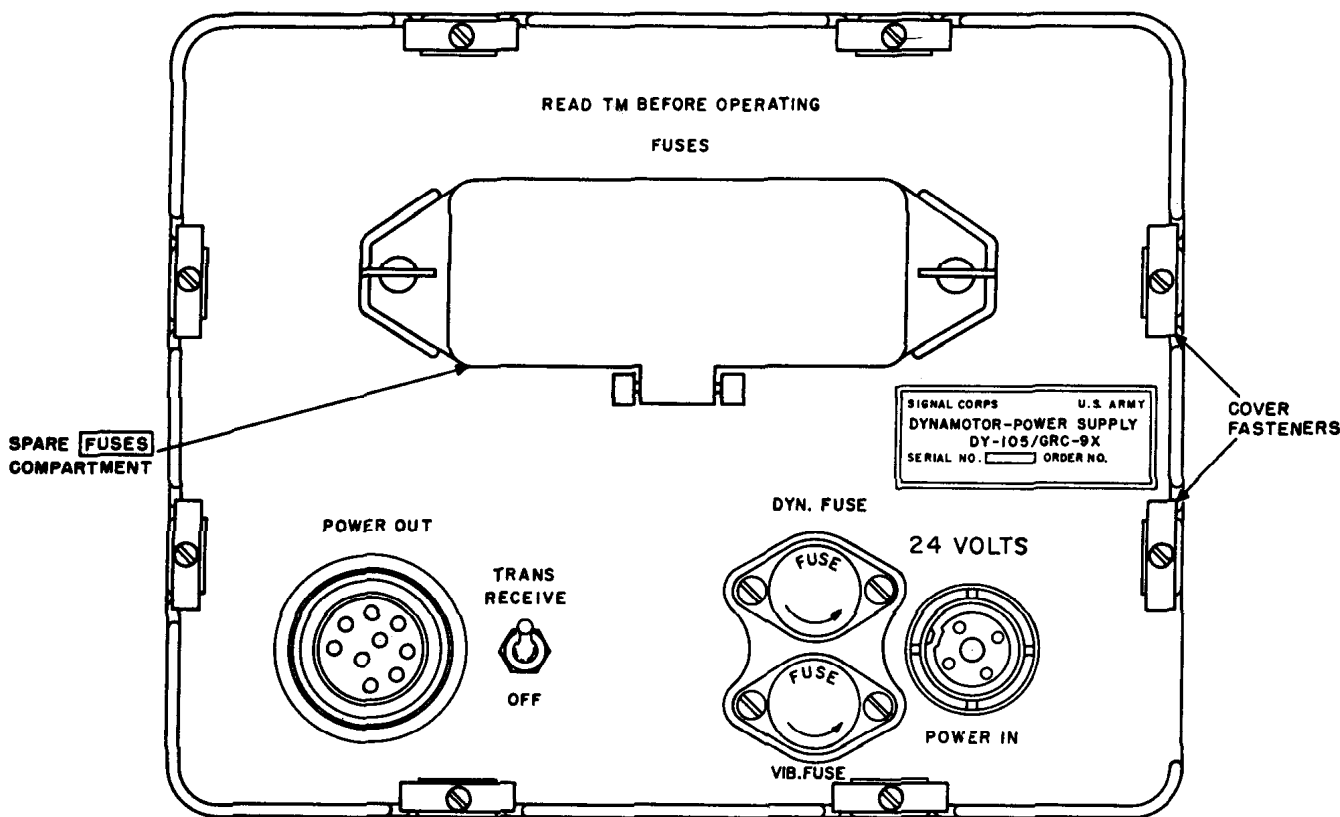

Figure 46. Dynamotor-Power Supply DY-105/GRC-9X, front panel controls.
*b. Dynamotor—Power Supply DY-105/GRC-9X (fig. 46).*